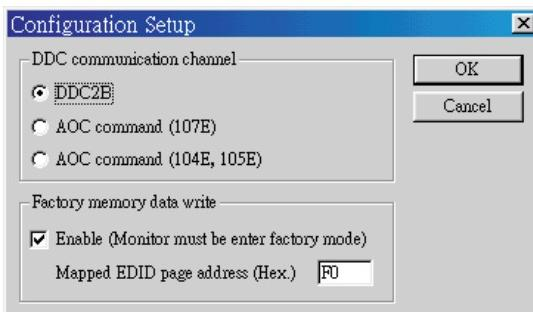

Fig. 7
- Click icon on the tools bar to bring up the Configuration Setup windows as Fig.7